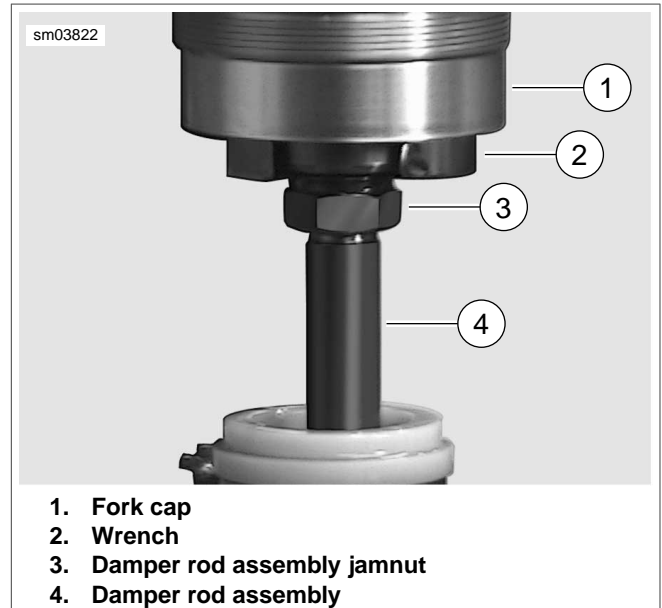

Figure 2-93. Holding Damper Rod Assembly: XB All Models
- See Figure 2-93. Compress the fork spring until the jamnut on the bottom of the fork cap is exposed.
- See Figure 2-93. The bottom of the preload adjuster is round with two flat sides so a wrench (2) can be used to brake to the jamnut (3) loose on the damper rod assembly in order to remove the fork cap from the damper rod.
7. Loosen the damper rod assembly jamnut (3) and back it off all the way to the bottom.
8. Hold damper rod assembly jamnut (3) and remove fork cap (1).
- See Figure 2-93. Compress the fork spring until you have access to the damper rod assembly with jamnut.